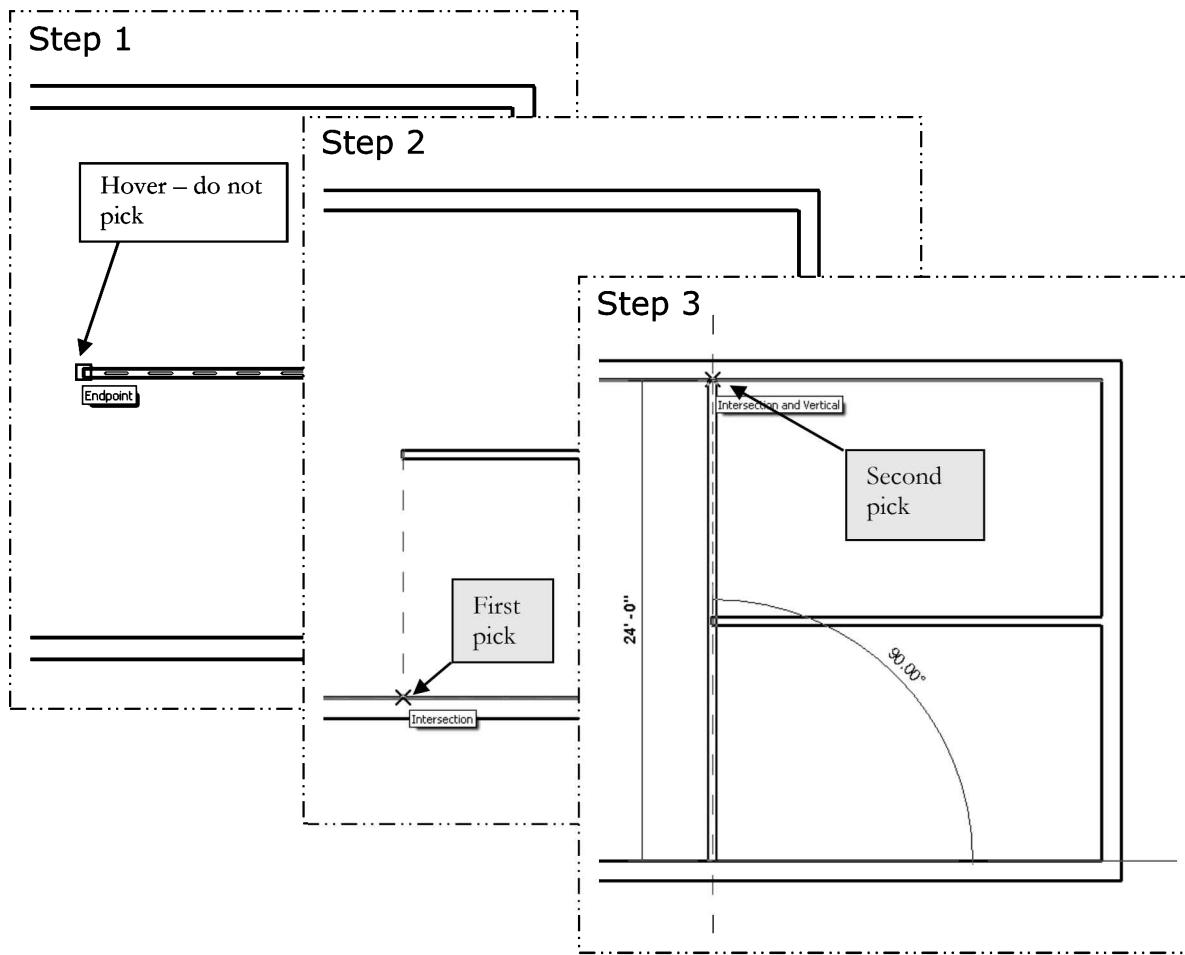

FIGURE 2-1.7 Draw wall with object tracking
11. Draw the vertical wall to close off the bedrooms. Revit allows you to do this with one wall segment by selecting your points in a particular way. See **Figure 2-1.7** for a graphical description of this process; press **Esc** twice to unselect the new wall (first Esc pressed) and cancel the *Wall* command (second Esc pressed).